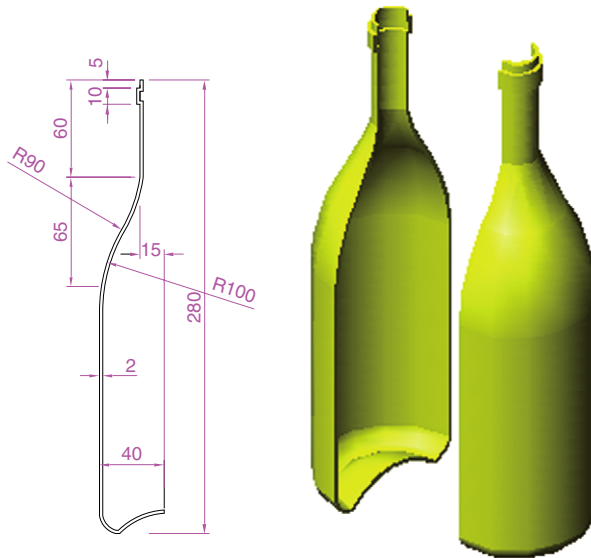

Fig. 15.26 Second example – **Slice**
Second example – Slice (Fig. 15.26)
1. Construct the closed pline (Fig. 15.26) and with the **Revolve** tool, form a solid of revolution from the pline.